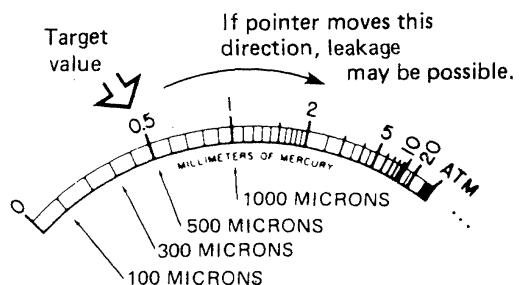

Fig. D-24
- 7) Keep this condition at least 5 minutes and observe the vacuum gauge for change. (Fig. D-24)